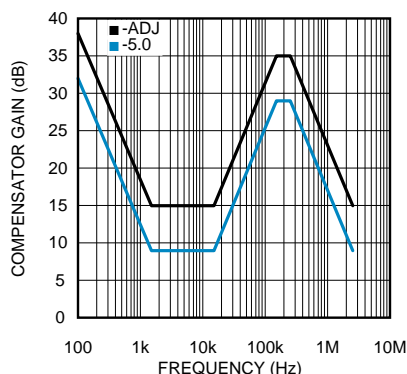

Figure 15. Compensator Gain
The complete transfer function for the regulator loop is found by combining the compensation and power stage transfer functions. The LM22676 has internal type III loop compensation, as detailed in Figure 15. This is the approximate "straight line" function from the FB pin to the input of the PWM modulator. The power stage transfer function consists of a D.C. gain and a second order pole created by the inductor and output capacitor(s). Due to the input voltage feedforward employed in the LM22676, the power stage D.C. gain is fixed at 20dB. The second order pole is characterized by its resonant frequency and its quality factor (Q). For a first pass design, the product of inductance and output capacitance should conform to the following equation: